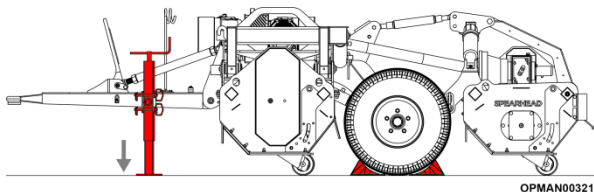

Figure 5.58
5.6.3.1 Clear the area of all personnel before lowering the front/rear body; see Figure 5.58.
5.6.3.4 Fully support the centre chassis and cowls of the machine with fixed stands or substantial blocks; see Figure 5.58.